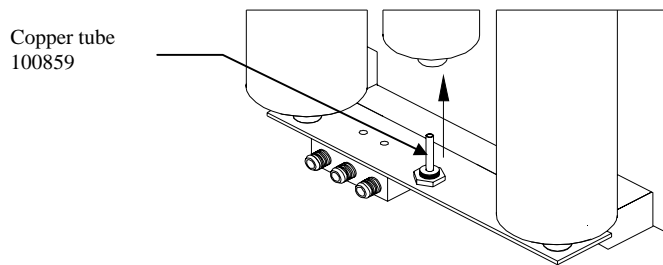

Figure 4
- Twist the air dryer canister counter clockwise until it is completely loose. Pull the canister straight up. Be careful not to damage the copper tube that travels up inside the canister (figure 4).